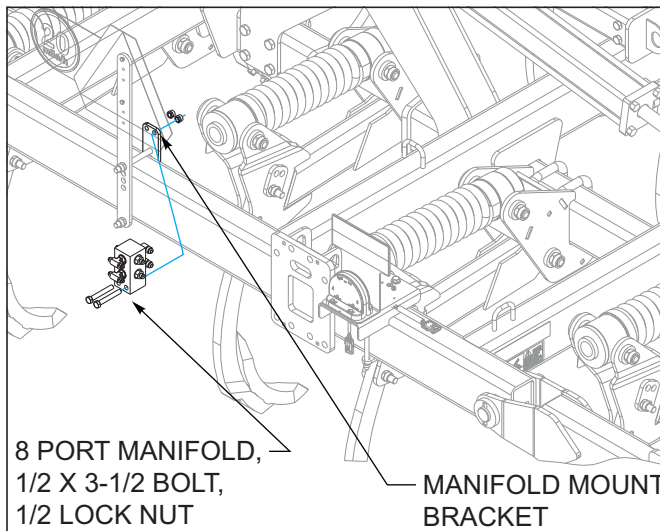

Figure 3-31: 8 Port Manifold Installation
5. On hydraulic Chopper Reel option, install the 8 port manifold to manifold mount with 1/2 x 4-1/2 bolts, 1/2 lock nuts as shown See Figures 3-31.